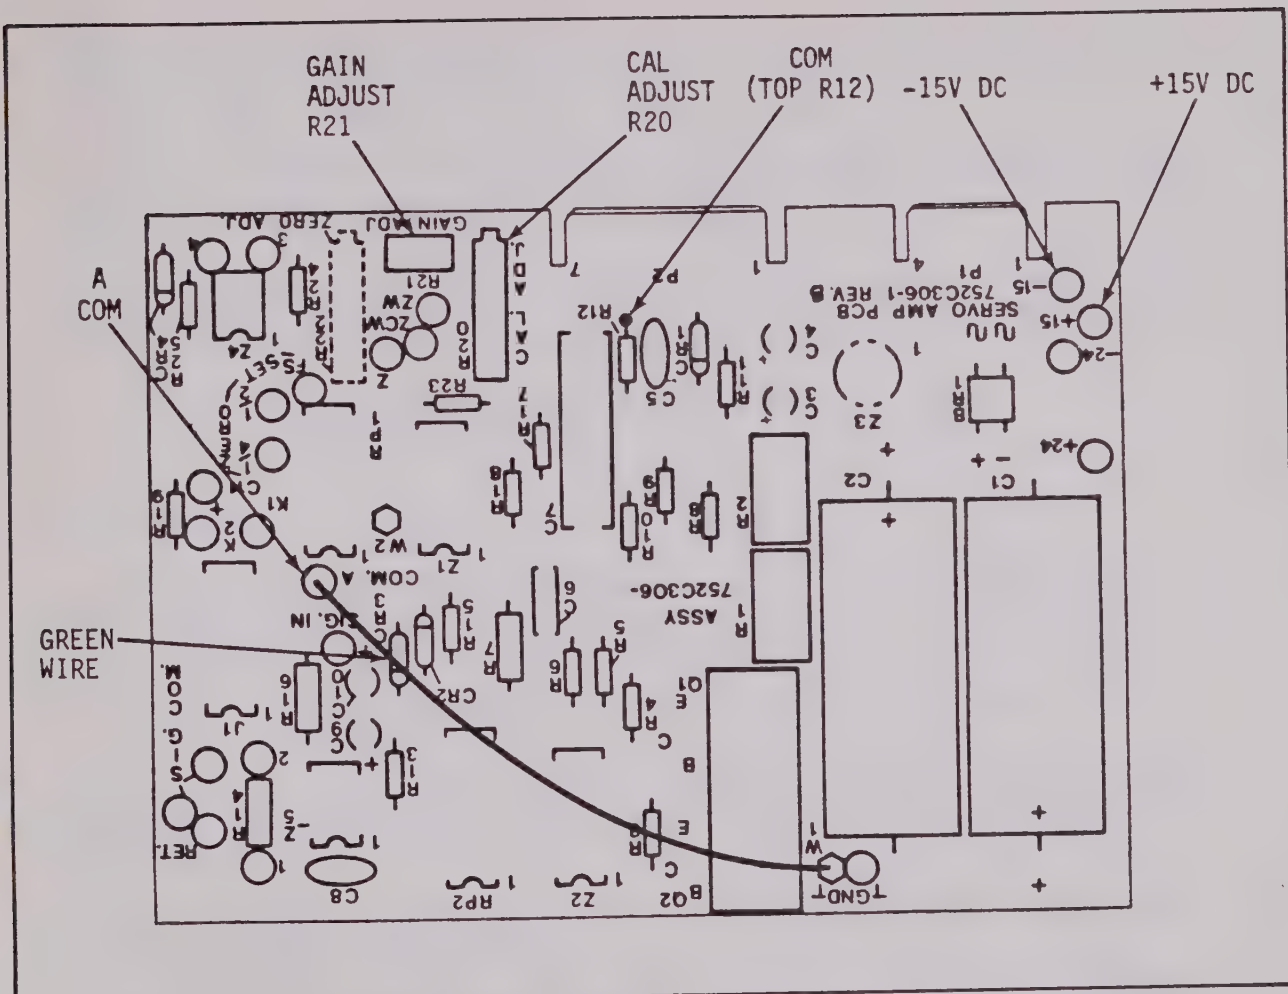

Figure 5-1. Location of Test Points and Adjustments on Servo Amp Board.
(2) Connect DVM to "+15V DC" and then "-15V DC" terminal posts on PC board (see Figure 5-1). Turn on power and permit recorder to warm up. Readings with respect to "COM" on board should be 15 volts, $\pm 5.0\%$. Disconnect DVM.
(3) Remove rear-panel jumper from "1V" Channel Input terminal and connect DC voltage standard across "1V" and "COM" terminals. Adjust standard for +0.5V DC output.
(4) Apply input signal to recorder. Pen should come to rest at approximately mid-scale. To check deadband, momentarily displace pen by slightly rotating pinion gear on top of chassis. Manually advance chart after each displacement to verify pen position.
(5) Deadband should be within 0.2% of span; if it is not, carefully reset servo GAIN ADJUST (R21) until deadband is acceptable (see Figure 5-1).